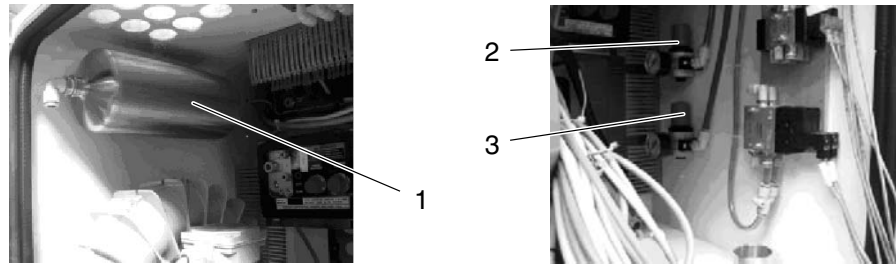

Fig. 2-7
The inlet pressure for the *Vantage* controller that supplies the guns with the powder pumps is set on this pressure regulator (2, Fig. 2-7).
The inlet pressure for the pressure accumulator (1) and the nozzle that blows the compressed air onto the main filter cassette fleece is set on this pressure controller (3, Fig. 2-7).
The hand lever valve or solenoid valve is used to switch from key-to-line to manual mode. In manual mode, the inlet pressure is set with the *Control unit* pressure regulator (2, Fig. 2-7).